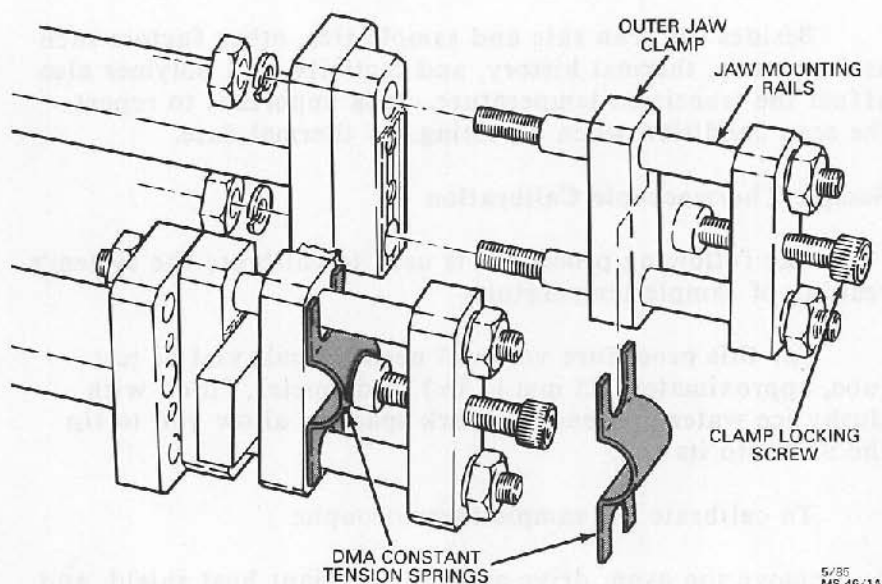

Figure 5.4
2. Insert one spring in each arm assembly between the outer jaw clamps and the clamp locking screw. See Figure 5.4. The notches in the spring should slide along the jaw mounting rails.